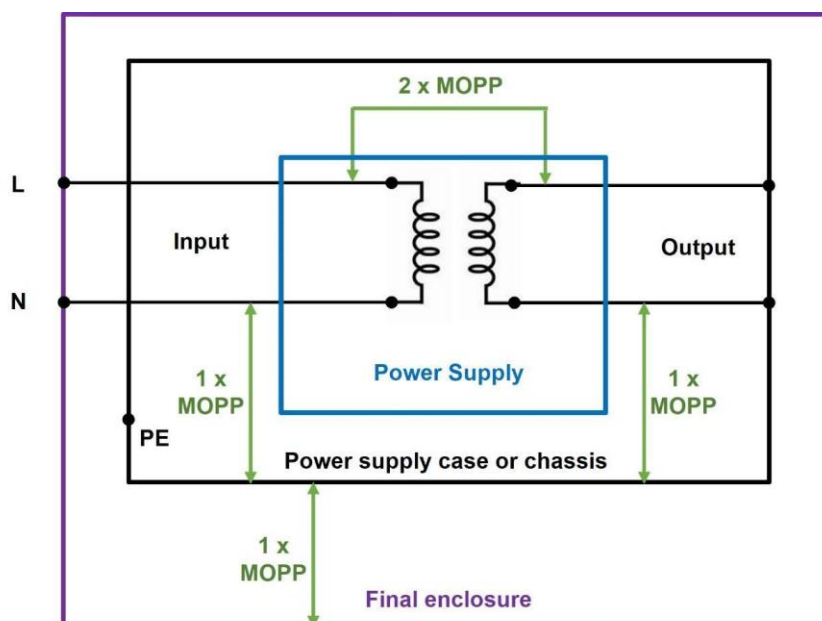

Figure 6: Insulation diagram of power supply in the end (system) enclosure
- 3) The power supply chassis must have 1 x MOPP isolation from the final equipment enclosure. This can be achieved by mounting the power supply in the end enclosure using non-conductive spacers for insulation, providing a total of 2 x MOPP and double or reinforced insulation between the primary circuit and chassis, see Figure 6.